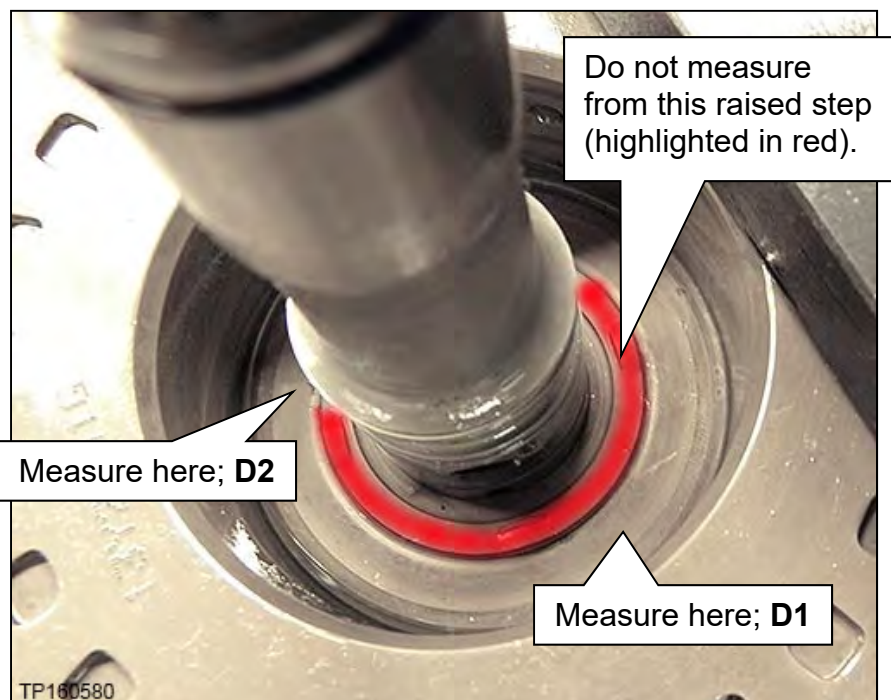

Figure 112
**NOTE:** Do not measure from the clutch assembly bore shown in red (Figure 112).